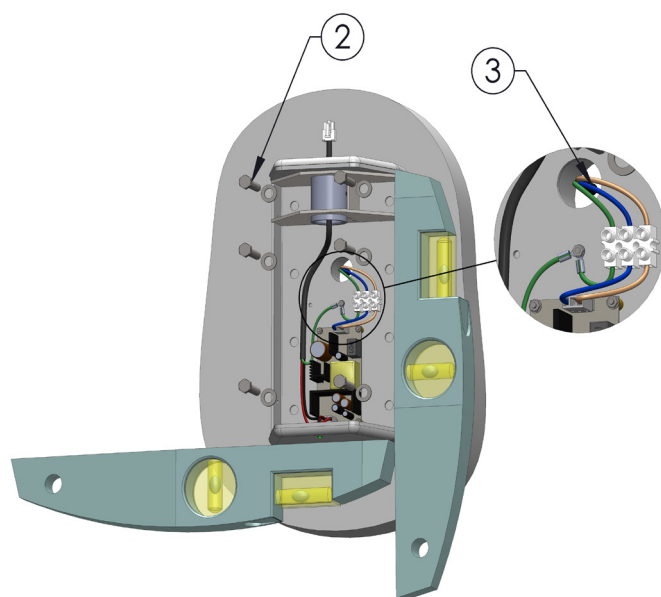

Fig. 17.0
2. Installer to select suitable fixings, and fix the wall unit to the structurally sound wall, ensuring that the unit is level on all edges Fig. 17.0.
3. Reticulate the 240v power to the power supply location, and connect to the fitting at the terminal block as shown in Fig. 17.0.